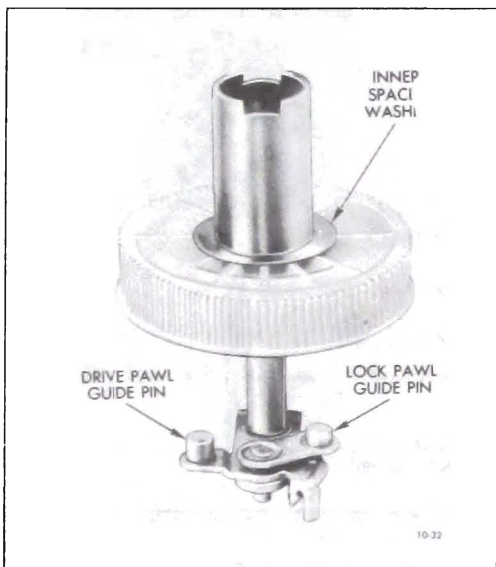

Figure 10-49 Assembling Gear over Drive Shaft
3. Slide gear and tube over the drive shaft. See Figure 10-49.